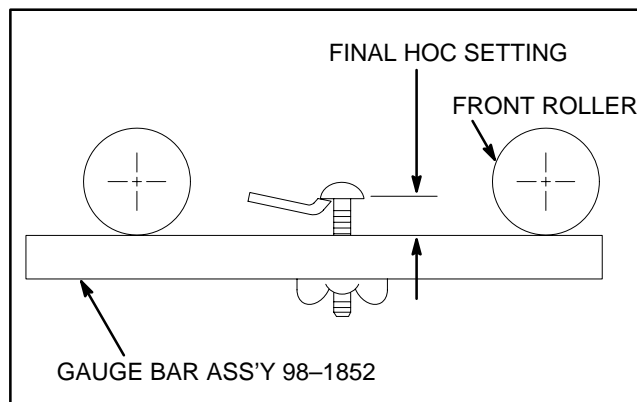

Figure 15
1. Using a gauge bar, Toro part no. 98-1852 or equivalent (Fig. 15), set head of screw to desired Height-of-Cut. This measurement is from bar face to underside of screw head.